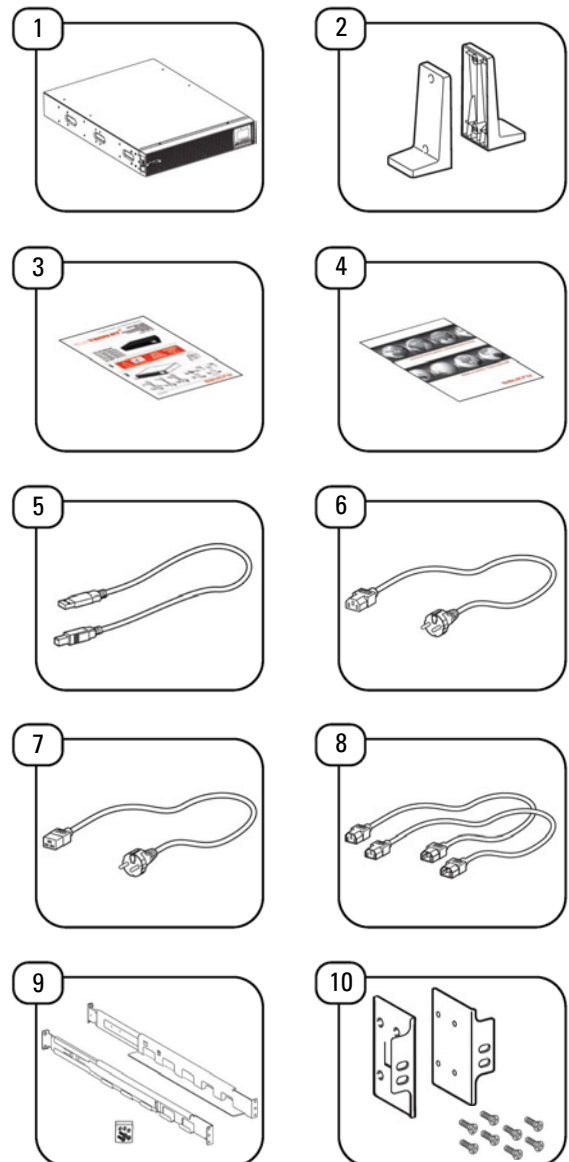

Fig. 8. Contents of the UPS package.
1. Secure the two brackets on each side of the UPS using the screws provided, following the instructions (item 10 Fig. 8)
Connect the input cable supplied with the UPS to the UPS input connector (item 6/7 Fig. 8).